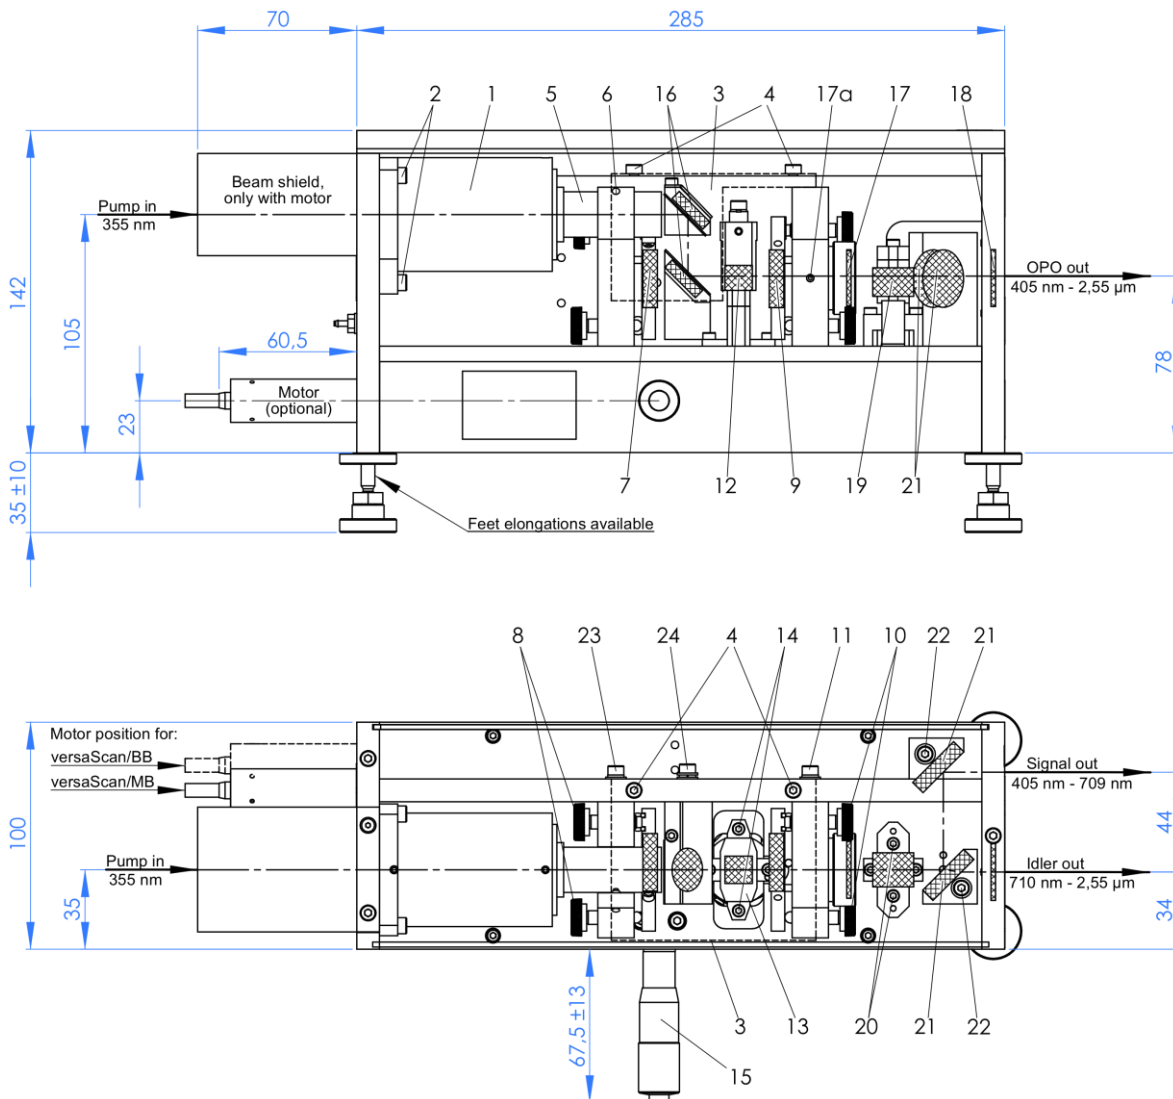
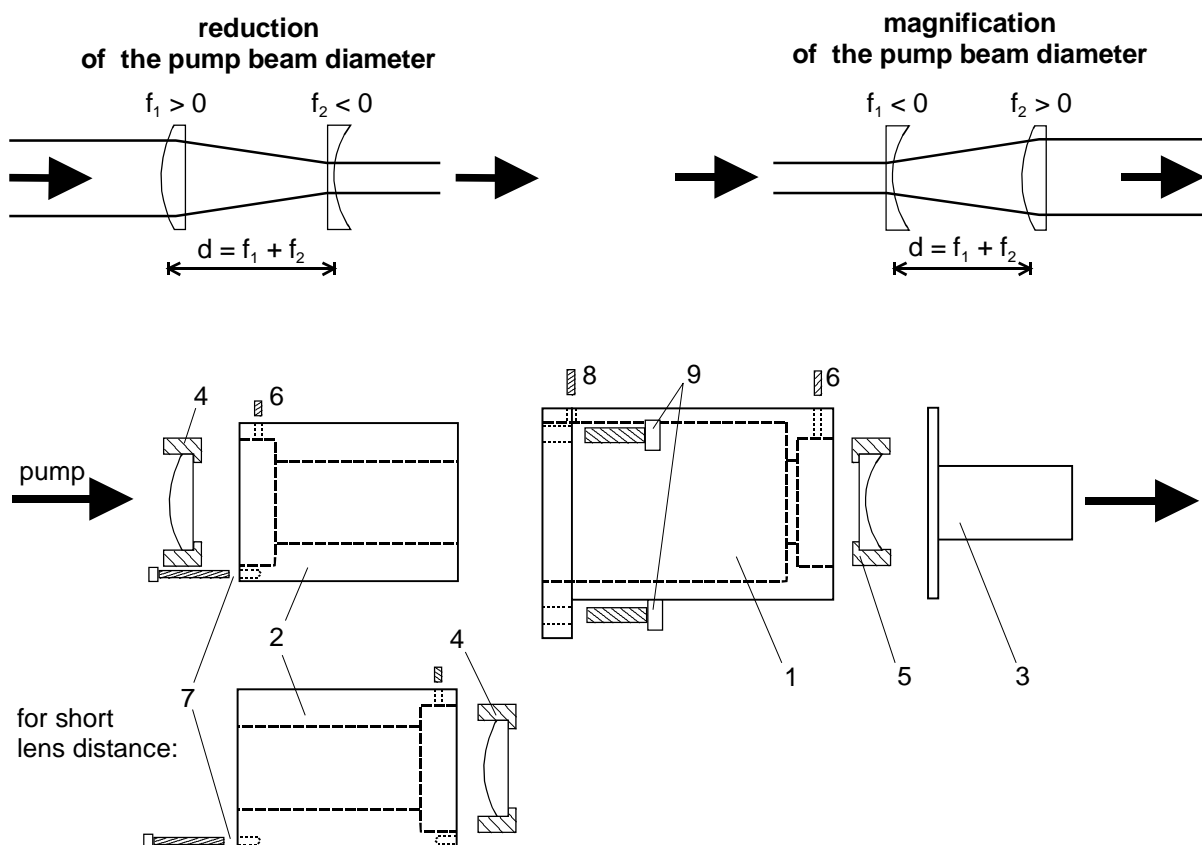

Figure 5: Schematic set up of the versaScan
Figure 6: Set up of the telescope:
- The laser safety beam shield (fig. 5 (3)) and the laser safety beam tube (fig. 5 (5)) have to be fixed in place any time the pump laser light is entering the versaScan! Otherwise harmful reflections from the tilted BBO crystal will put the user at high risk!
Laser safety: When opening the cover (e.g. for alignment) ensure that the laser safety beam shield (fig. 5 (3)) and the laser safety beam tube (fig. 5 (5)) is in place any time pump laser light is entering the versaScan! Otherwise harmful reflections from the tilted BBO crystal will put the user at high risk!
For a versaScan/BB/HE and for a versaScan/MB build up the OPO in some distance to the pump laser. Choose the distance between the pump laser and the versaScan in a way that the reflection from the versaScan output coupler (figure 5 (9)) does not overlap with the laser pulse at the THG crystal of the pump laser. The light propagates 30 cm each 1 ns. Thus for 5 ns pump pulse length for example the geometrical spread of the pump pulse is $5 \times 30 \text{ cm} = 150 \text{ cm}$ and hence the distance between the THG crystal and the OPO resonator should be $150 \text{ cm} / 2 = 75 \text{ cm}$. In general the distance between the laser THG crystal inside the laser housing and the versaScan output coupler (figure 5 (9)) should be:
The telescope is a Galilean type consisting of a plano-convex and plano-concave lens (see fig. 6 below). Ask your GWU OPO service support for the correct telescope lenses appropriate to your pump laser.
- Take off the laser safety beam tube (fig. 5 (5) & fig. 6 (3)) by loosening the screw fig 5 (6)..
- Loosen the setscrew (fig.6 (8)) and slide out the inner tube (fig. 6 (2)) completely.
- Fix the lenses in the telescope housing with the curved side of the lenses orientated as shown in fig. 6.
Danger: Take care that the telescope lens is orientated correctly like shown in figure 6! Wrong orientation of the lens curvature can lead to optics damage! The back reflection from the curved side should not exhibit a focus!
- Begin the adjustment of the lens distance with minimum lens distance d and minimum pump energy. Slide the inner tube of telescope (fig. 6 (2)) to change the lens distance.
- Fix the lens position with the setscrew (fig. 6 (8)).